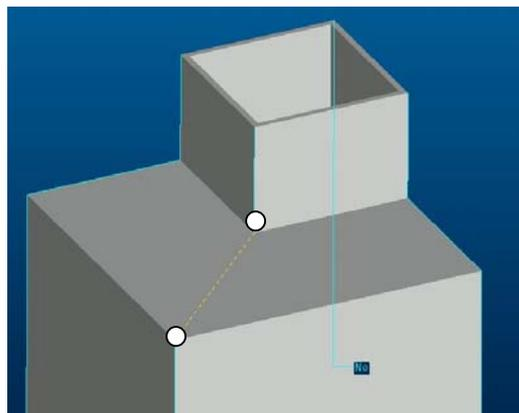

Figure 4
- Rip Connect** – Connect edge rips that do not have common vertices. See Figure 4.
5. Select **Rip Connect, Define, Add**, select the two vertices indicated in Figure 4.